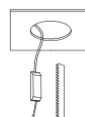

Fig: 1
- 1 Connect the GROUND wire from fixture to supply ground. (Fig: 1)